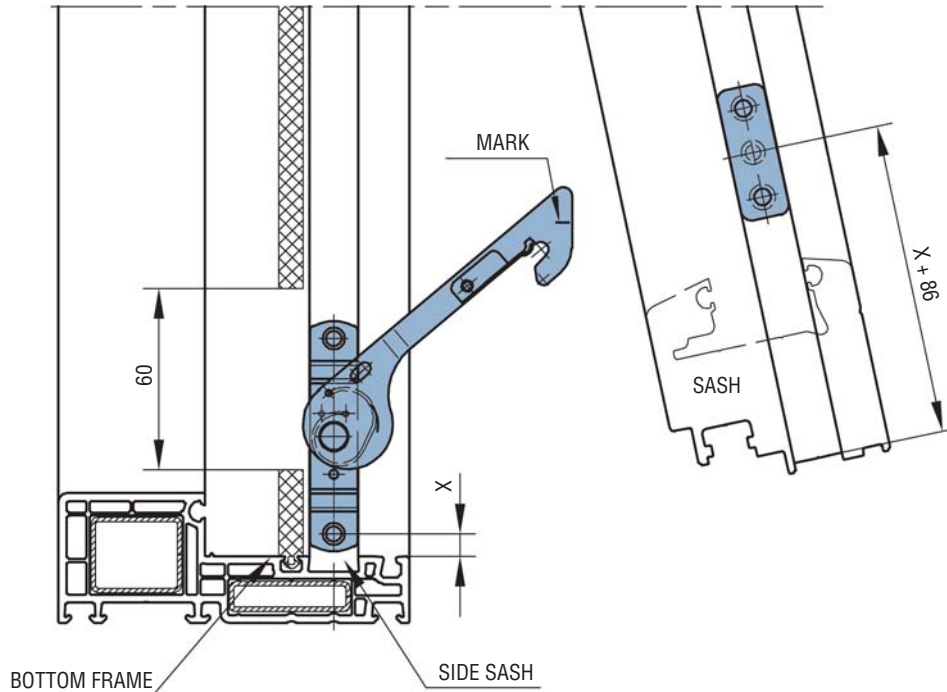

FIG. 1
TO ACCOMMODATE THE RESTRICTOR IT WILL BE NECESSARY TO REMOVE 60 MM OF THE WEATHER STRIP AS SHOWN ON FIG. 1.
**IMPORTANT:** THE RECEIVER MUST BE MOUNTED SO THAT IT HITS THE MARK ON THE RESTRICTOR ARM WHEN THE WINDOW IS CLOSED. SEE FIG. 1